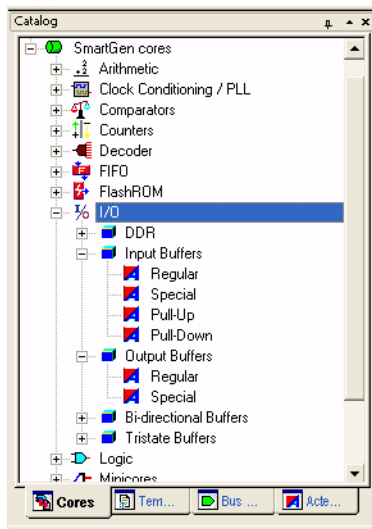

Figure 13-3 • Expanded I/O Section
- Expand the I/O section and double-click one of the options (Figure 13-3).